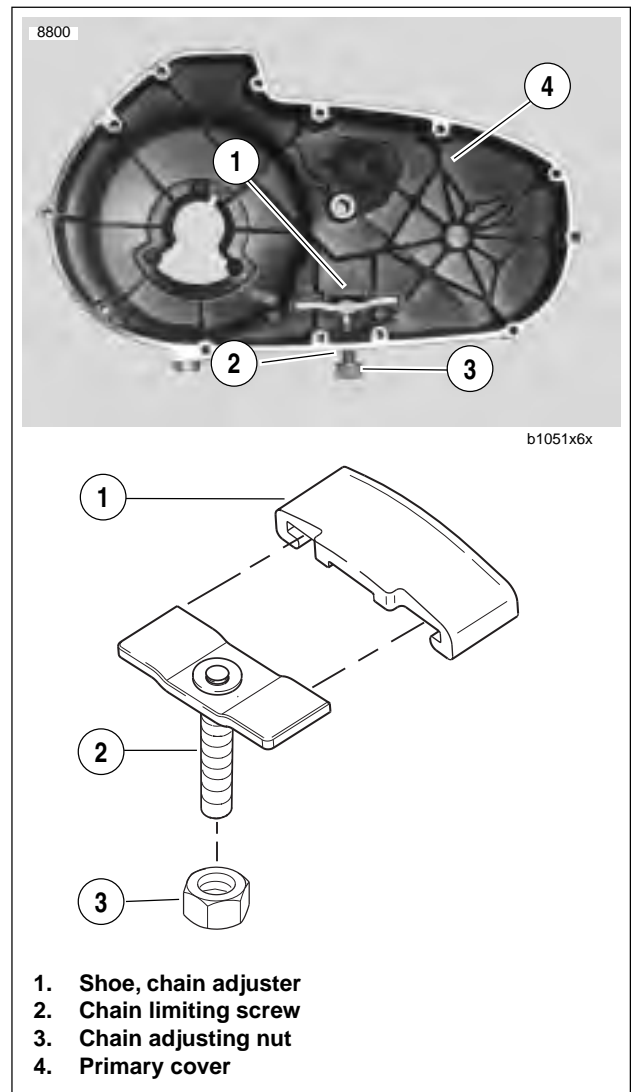

Figure 6-2. Primary Chain Adjuster
1. See Figure 6-2. Remove locknut (3) from adjuster screw (2). Turn adjuster screw out of threaded boss in primary cover (4).
2. Slide shoe (1) off plate (2) (shoe must be slid off plate toward closed or blind side of shoe).
3. See Figure 6-2. Inspect primary chain adjuster shoe (1). If badly worn or damaged, it must be replaced.
4. Place plate (2) into slot at open end of shoe. Slide shoe over plate until plate is against closed (blind) side of shoe.
5. Position adjuster inside primary cover (4) with closed side of shoe against cover. Thread adjuster screw (2) all the way into tapped boss at bottom of primary cover.
6. At outside of cover, thread locknut (3) onto adjuster screw with nylon sealing surface toward cover. A 1/4-inch allen wrench may be inserted into end of adjuster screw to hold it while threading lock nut.